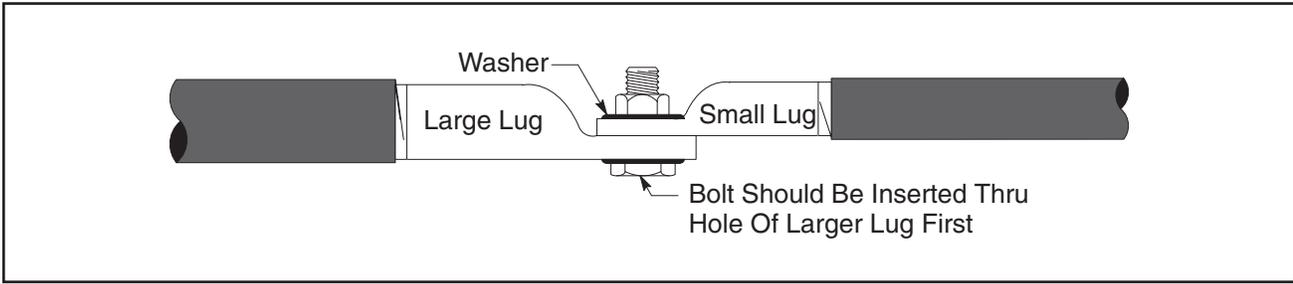

Figure 3
3.4 Remove silicone grease from lugs. Bolt lugs together (see *Table 1* for maximum bolt length). See *Figure 3* for proper lug/bolt arrangement.